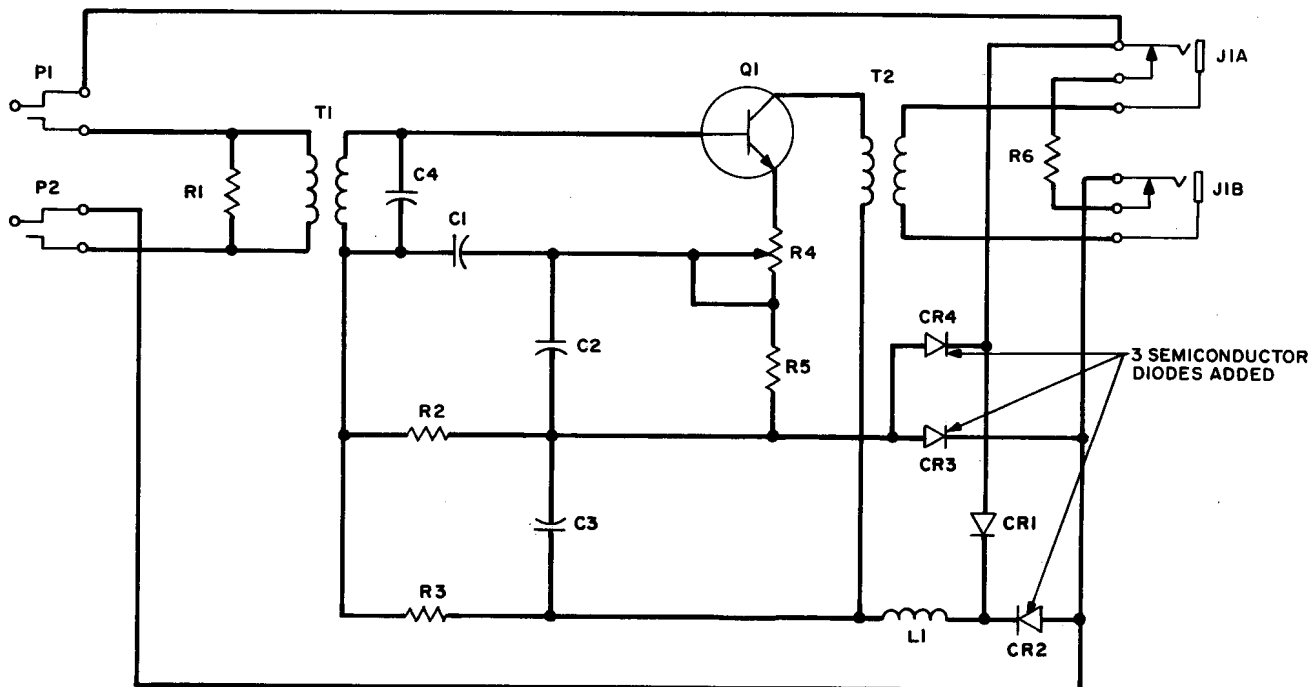

Fig. 5 - Modified Circuit for Nonpolarized Use
3.04 In those cases where it is necessary to use this amplifier under conditions as in 3.03, where talking battery is reversed, during a call, or from call-to-call, provision has been made to modify the amplifier to function under these conditions. A full-wave rectifier bridge consisting of three semiconductor diodes is inserted in the power leads as shown in Fig. 5. When amplifiers of this type are required, proper requests for it should be made through the regular routine.